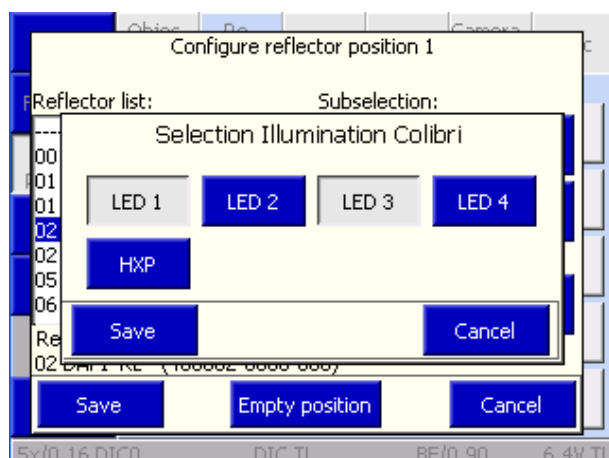

Fig. 135 Selecting Colibri / HXP 120 illumination
- In the following pop-up menu (Fig. 135) select one or more LEDs to match the selected reflector position. Alternatively, an optional white-light source (HXP 120) can also be selected. Note that LED and HXP cannot be chosen at the same time.